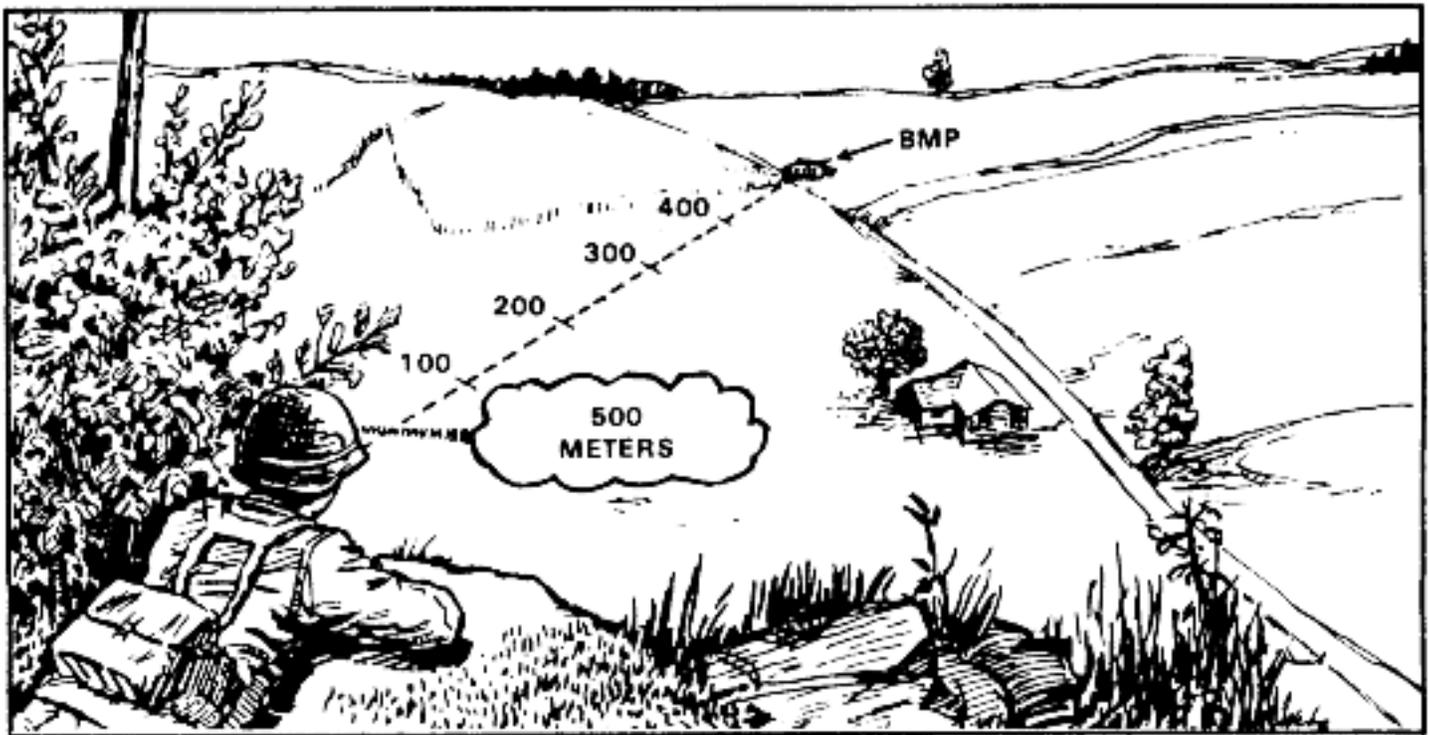
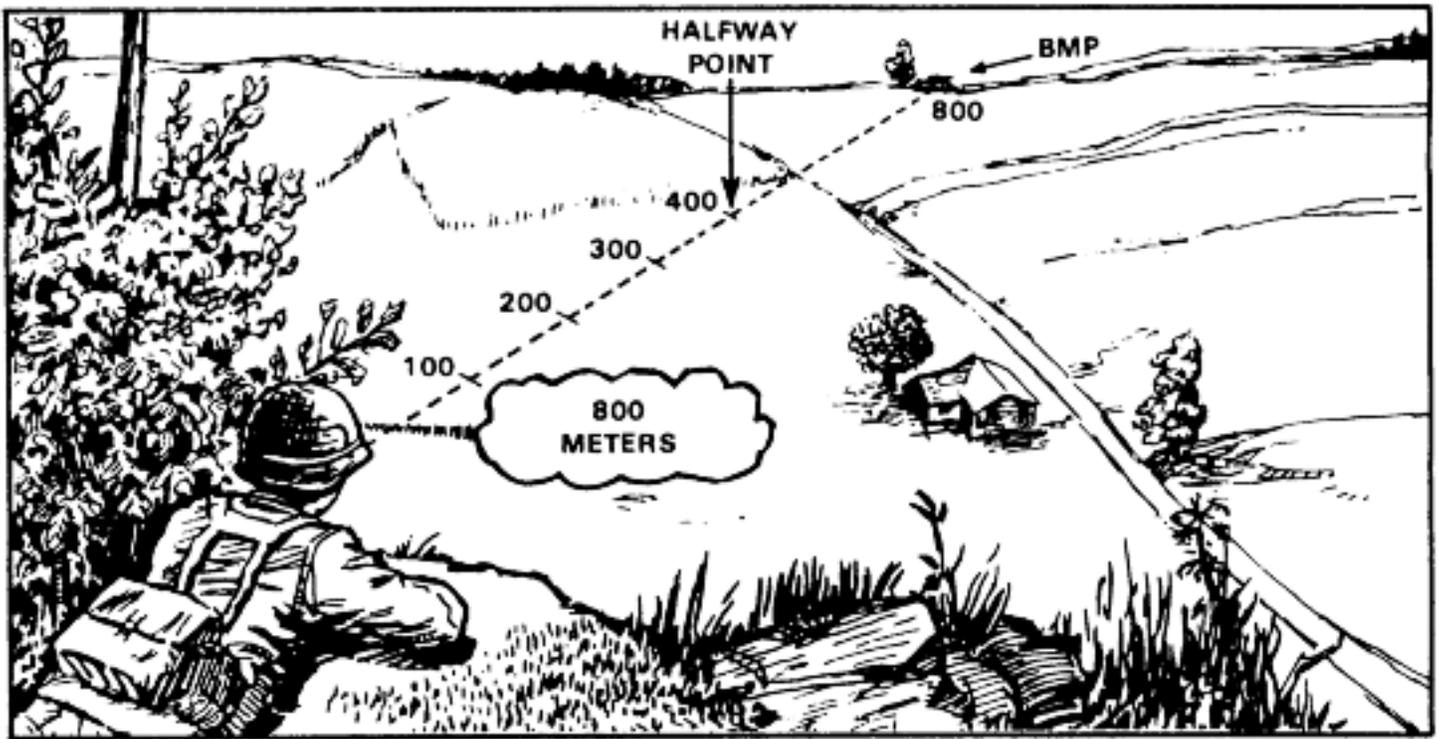

Figure 6-4. Application of the 100-meter unit-of-measure method for ranges up to 500 meters.
Figure 6-5. Application of the 100-meter unit-of-measure method for ranges greater than 500 meters.
- a. Using the 100-meter unit-of-measure method, visualize 100 meters on the ground (this takes practice) and determine how many units of 100 meters there are to the target (Figure 6-4). For targets more than 500 meters (5 units) away, pick a point about halfway, estimate the range to that point, and double it (Figure 6-5).